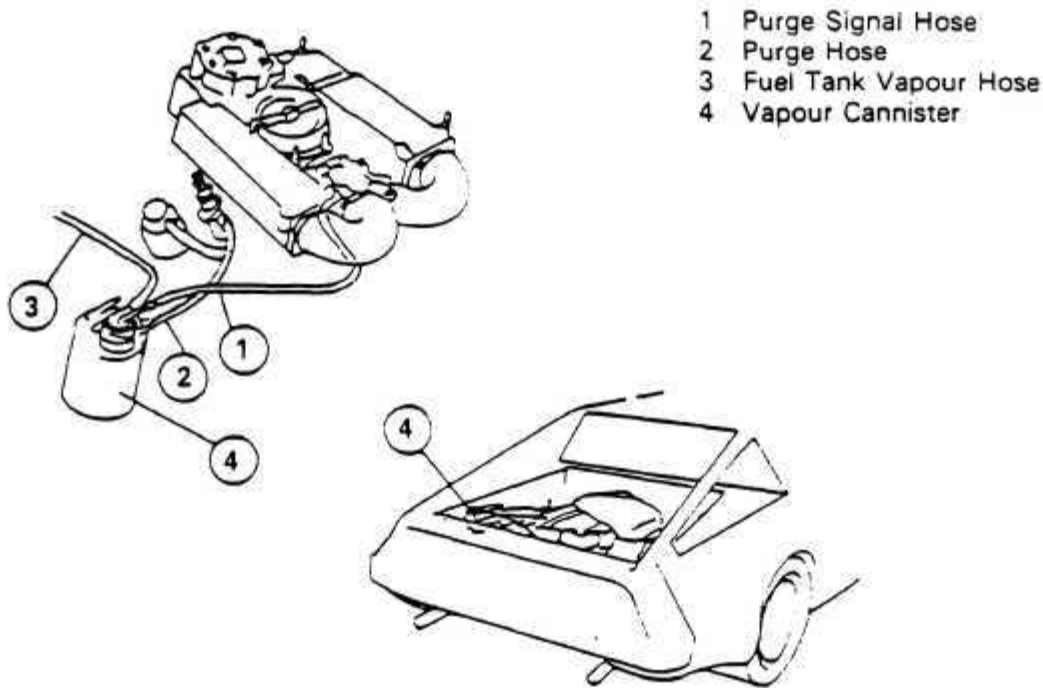

Fig. 42
- 5. The vapour cannister is not serviceable and must be replaced as a complete assembly. The cannister is located inside the left rear body section and is attached to the cover plate which is fastened to the body with (4) bolts. (Fig. 42)